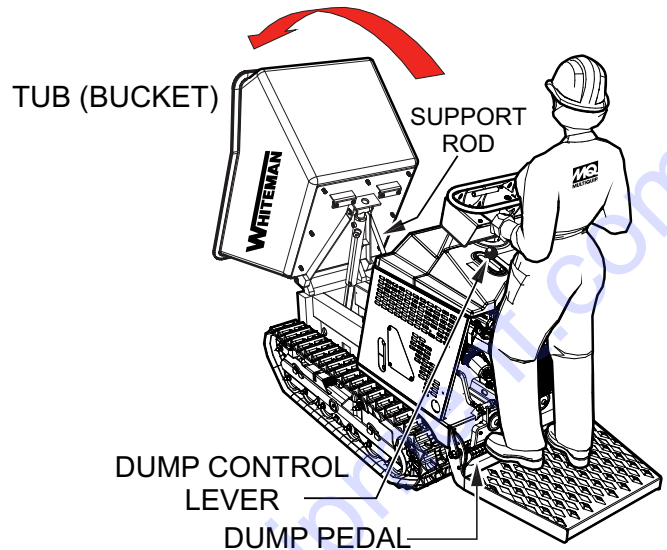

Figure 35. Tub Dump Position Hydraulic Oil Access
3. To gain access to the hydraulic oil tank filler hole, the tub (Figure 35) must be placed in the dump (vertical) position.